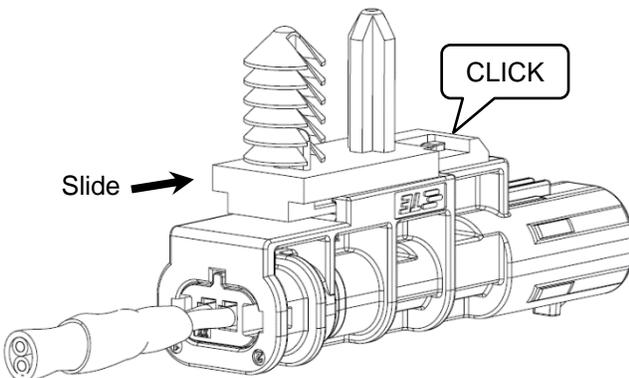

Figure 4
1. Align the latch of the mounting clip with the opening of the connector mounting clip holder as shown in Figure 4, Detail A.
2. Slide the mounting clip into the mounting clip holder until the latches engage and there is an audible “click”. See Figure 4, Detail B. The connector is now ready to mount onto the panel.